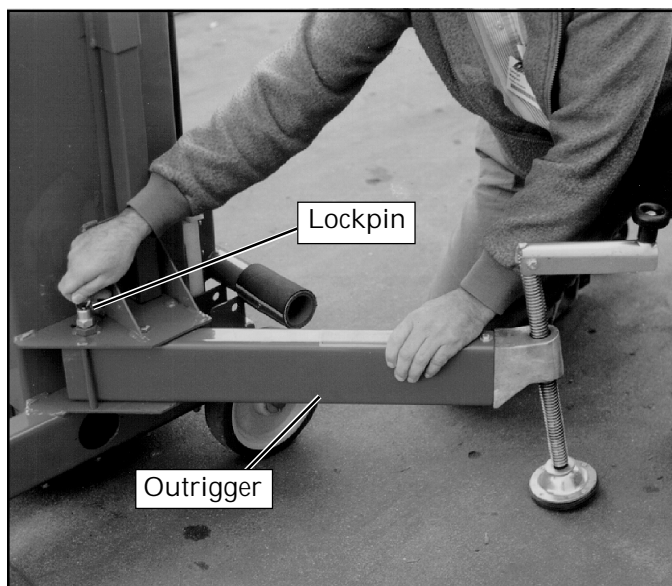

Figure 1B: Installing rear outriggers
2. Rotate each rear outrigger out towards rear of machine and push in place until lockpin engages (Figure 1B).
4. **All four (4) screwjack pads must be in solid contact with a firm surface. Each interlock switch must be engaged before the platform will elevate.**